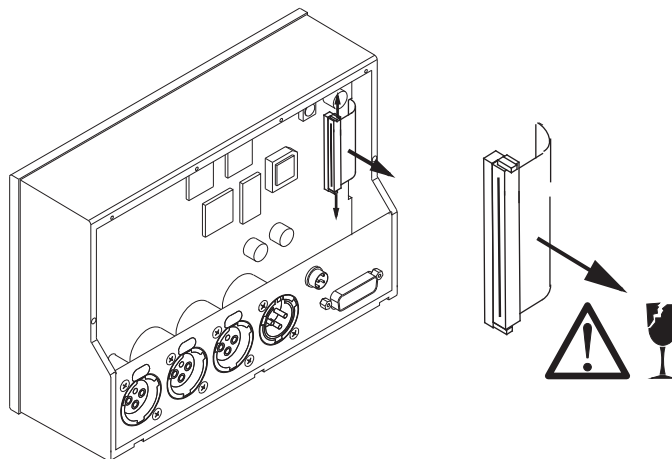

Fig. 8-4: Loosen the connecting cable
4. Take off the connecting flat cable after carefully loosening the locker (right above on the main pcb). Avoid damage of the flat cable and the locker because of canting. (Fig. 8-4).